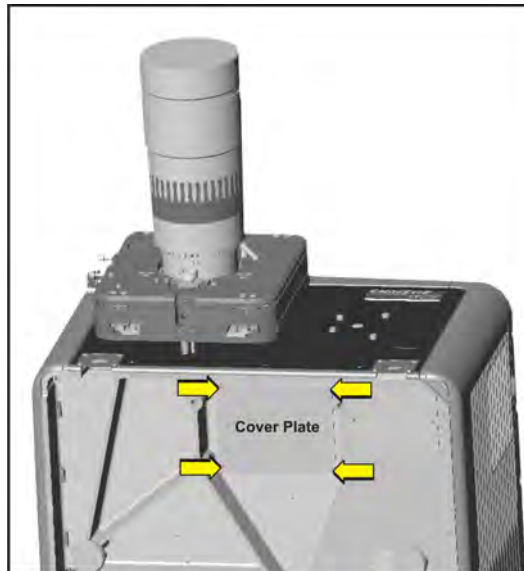

Figure 5-22 Remove Cover Plate
1. Remove the four, 3mm screws securing the fold mirror cover plate under the front portion of the projector. Remove cover plate. **(Figure 5-22)**